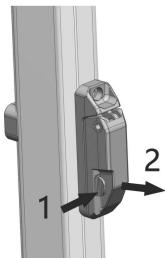
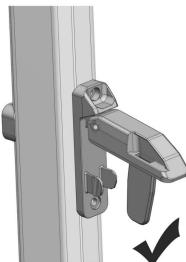

Figure D1
Figure D2
4.1.1 Open the safety lock located in the middle of the support rods on both sides (press and pull, Figure D1), and loosen the tension rod screw (Figure D2).